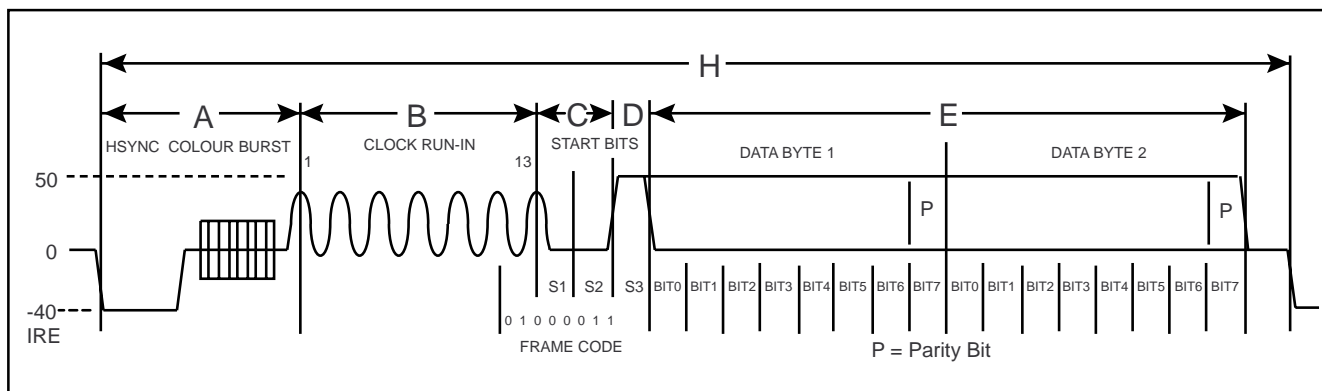

Fig.7 Closed Capation format
Two bytes of data are coded on the line 21 of each field, see figure 7. In the NTSC Closed Caption service, the default state is to code on line 21 of field one only. An additional service can also be provided using line 21 (284) of the second field. The data is coded as NRZ with odd parity, after a clock run-in and framing code. The clock run-in frequency = 0.5034965MHz which is related to the nominal line period, D = H / 32.